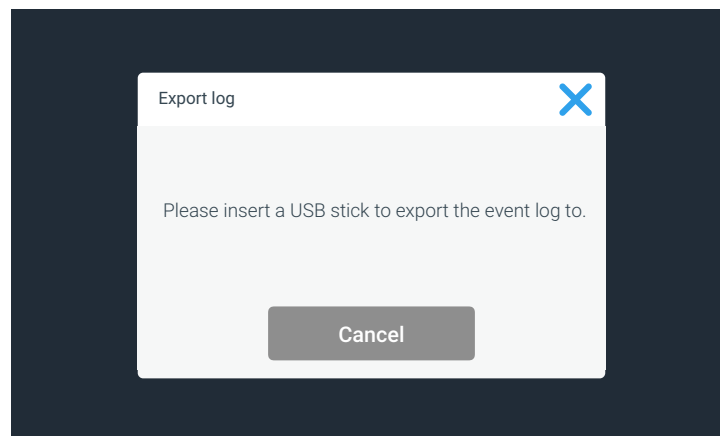

Figure 94 “Export log” Screen: Missing USB Drive Alert
- If you have not inserted a USB drive yet, the pop-up window shown in Figure 94 appears, asking you to insert a USB drive to export the log to. The window will close automatically when you insert a valid USB drive, and the export process will start.